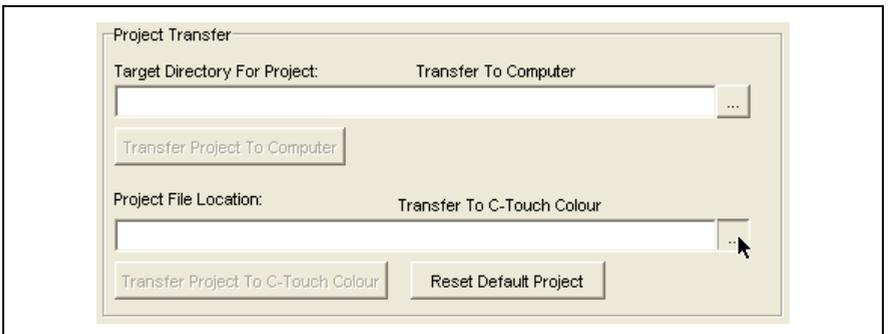

Figure 23 – Choose a project to be transferred to the C-Touch Colour
- 15) Select the '...' button adjacent to the Project File Location field (Figure 23), and choose the project archive to be transferred.